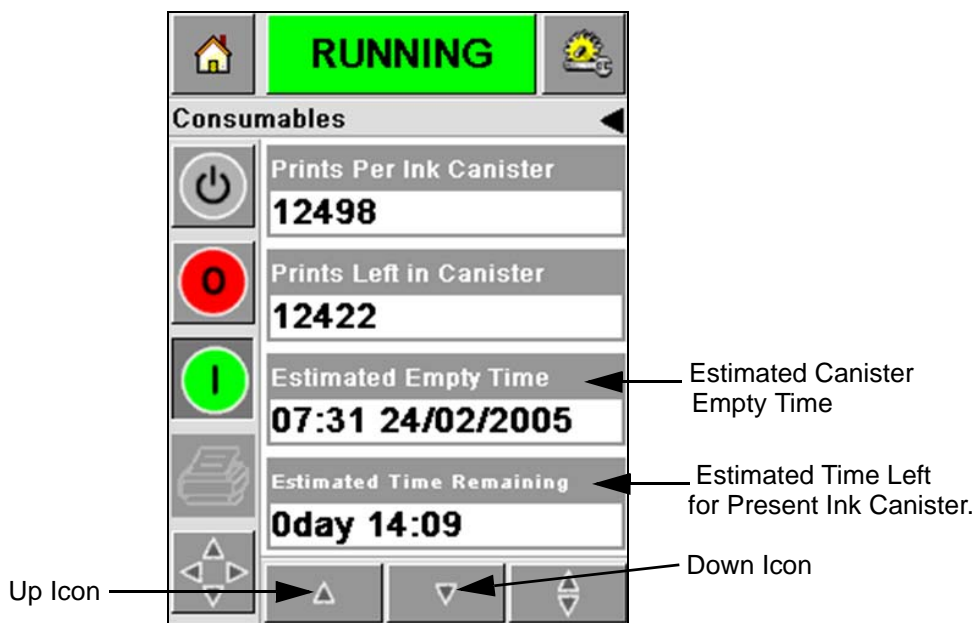

Figure 4-16: Estimated Time Display
- Use the *Up* and *Down* buttons to see the *Estimated Empty Time* and *Estimated Time Remaining* for the current ink canister (Figure 4-16).